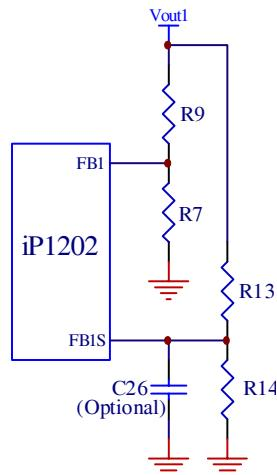

Fig. 17: Typical scheme for output voltage setting
Both outputs of the iP1202 will shut down if either one of the outputs experiences a voltage in the range of 115% of  $V_{OUT}$ . The overvoltage sense pins FB1s and FB2s are connected to the output through voltage dividers,  $R_{13}$  and  $R_{14}$  (Fig. 17), and the trip setpoints are programmed according to equation (1). Separate overvoltage sense pins FB1s and FB2s are provided to protect the power supply output if for some reason the main feedback loop is lost (for instance, loss of feedback resistors). An optional 100pF capacitor (C26) is used for delay and filtering purposes. If this redundancy is not required and if Type II control loop compensation scheme is utilized, FB1s and FB2s pins can be connected to FB1 and FB2 pins respectively.
When selecting output capacitors, it is important to consider the overshoot performance of the power supply. If the amount of capacitance is not adequate, then, when unloading the output, the magnitude of the overshoot due to stored inductor energy, and depending on the speed of the response of the control loop, can exceed the overvoltage trip threshold of the iP1202 and can cause undesirable shutdown of the output. The magnitude of the overshoot should be kept below 1.125 $V_{OUT}$ . To prevent the overshoot from tripping the output a delay can be added by installing capacitor C26 as shown in Fig.17.